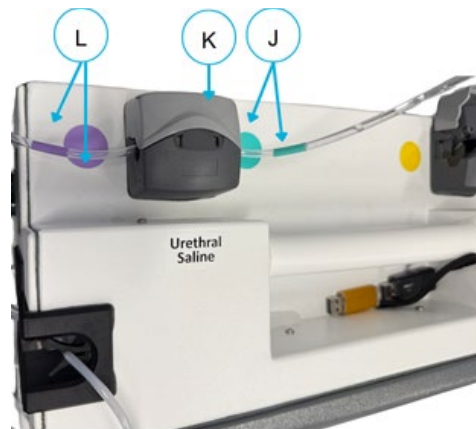

Figure 11-5: Urethral Saline Color Indicators
1. Place the **Saline Flush Line** in the Urethral Saline Pump (K) on the top of the Generator (Figure 11-5).
- Match the green (J) and purple (L) color indicators on the Generator and Saline Flush Line to guide placement